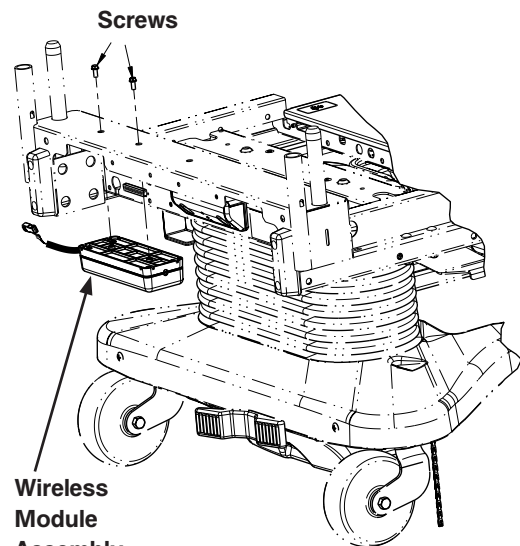

Figure 3
7. Using a 1/4" ratchet and a 5/16" socket, remove the two screws securing the wireless module to the litter frame shown in Figure 3.